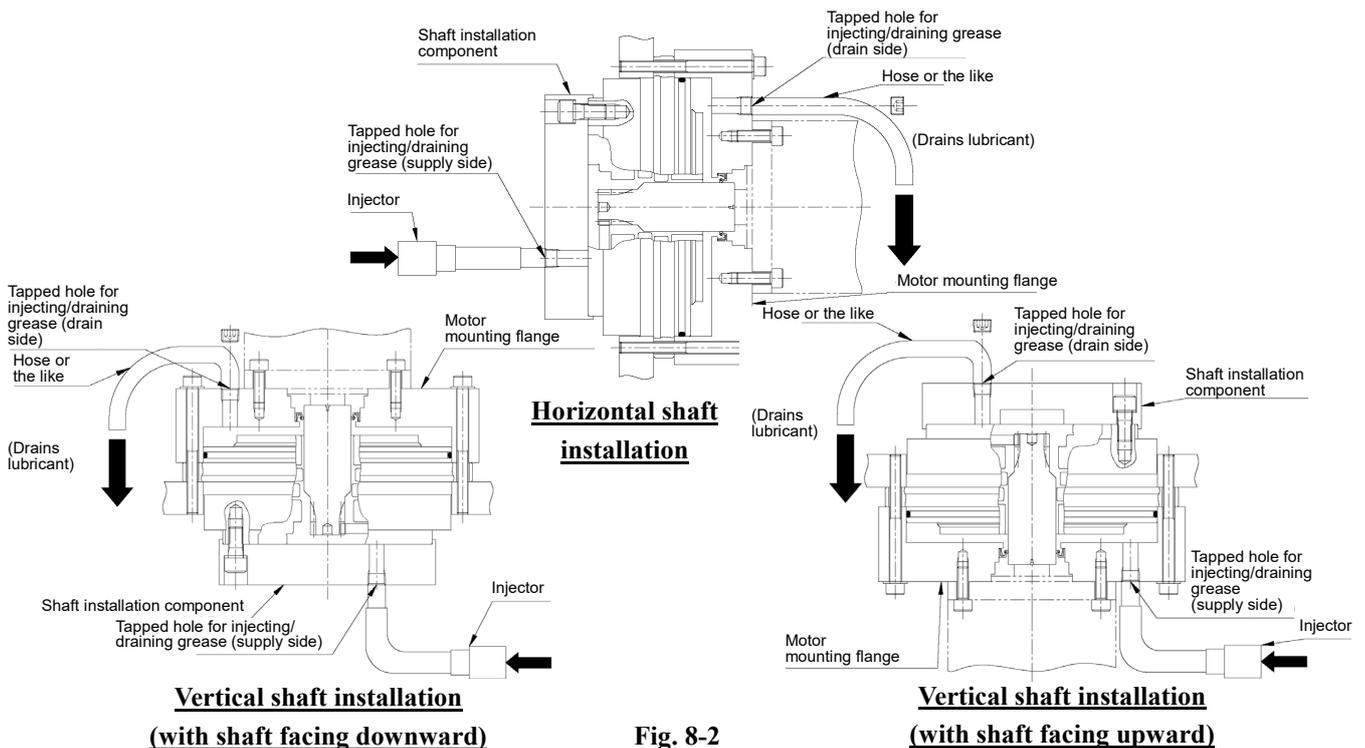

Fig. 8-2
- The shape of the reduction gear may differ from the illustration in Fig. 8-2, depending on the ordered specifications. For details on the shape, refer to the separately provided “Outer dimensions” drawings and specification sheet.
- Step 4** • Attach a grease nipple, etc. to the tapped hole for injecting/draining grease and then attach the injector. (Refer to Fig. 8-2)